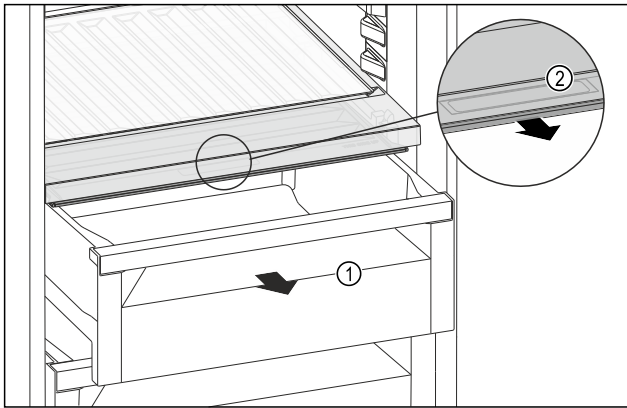

Fig. 156
- ▶ Pull out the drawer Fig. 156 (1).
- ▶ Grasp the recessed grip Fig. 156 (2) on the compartment lid and pull the compartment lid forwards at the same time.